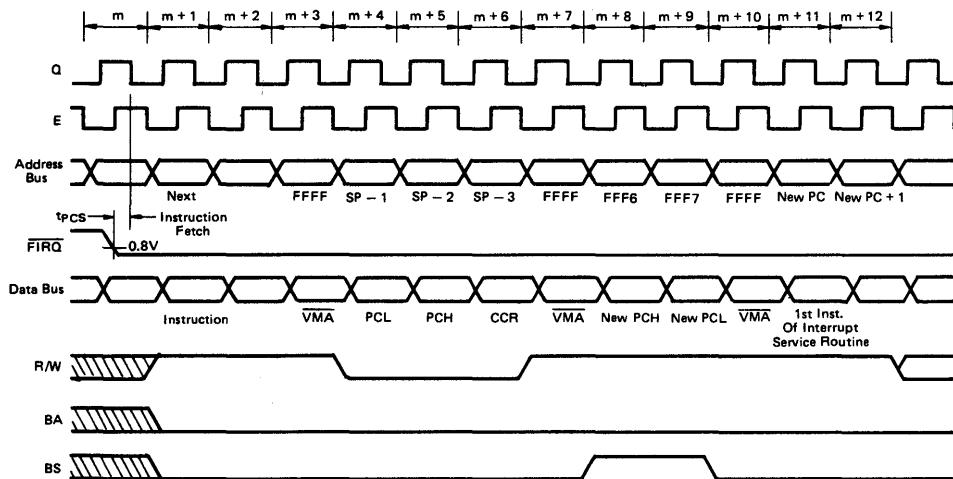

Figure 10 FIRQ Interrupt Timing
A “Low” level on this input pin will initiate a fast interrupt sequence provided its mask bit (F) in the CC is clear. This sequence has priority over the standard Interrupt Request (IRQ), and is fast in the sense that it stacks only the contents of the condition code register and the program counter. The interrupt service routine should clear the source of the interrupt before doing an RTI. See Fig. 10.